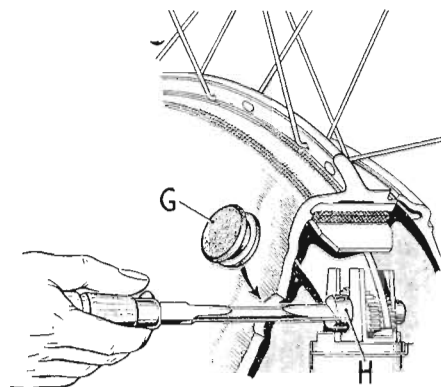

FIGURE 25.
Slacken off the cable adjuster at the handlebar lever and remove the grommet (G) FIG. 25, from the hub shell. Rotate the wheel until the aperture is opposite to the adjuster screw (H) and apply a screwdriver to the head of the screw. The adjuster turns in a series of "clicks" and must be rotated in a clockwise direction until it cannot be turned any further, when the shoe will be fully expanded against the drum. Now unscrew the adjuster until the wheel is free to rotate and the shoe is just clear of the drum. Turn the wheel through half a revolution and repeat the adjustment on the remaining shoe. Check that the wheel revolves freely.